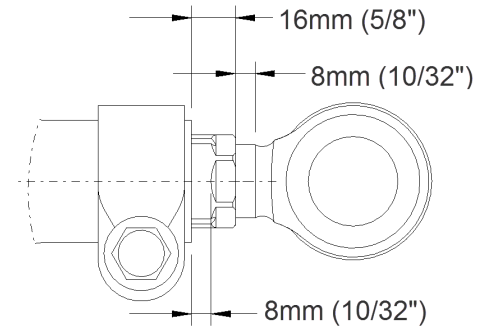

FIGURE 10
13. Adjust sleeve to the values of FIGURE 10.